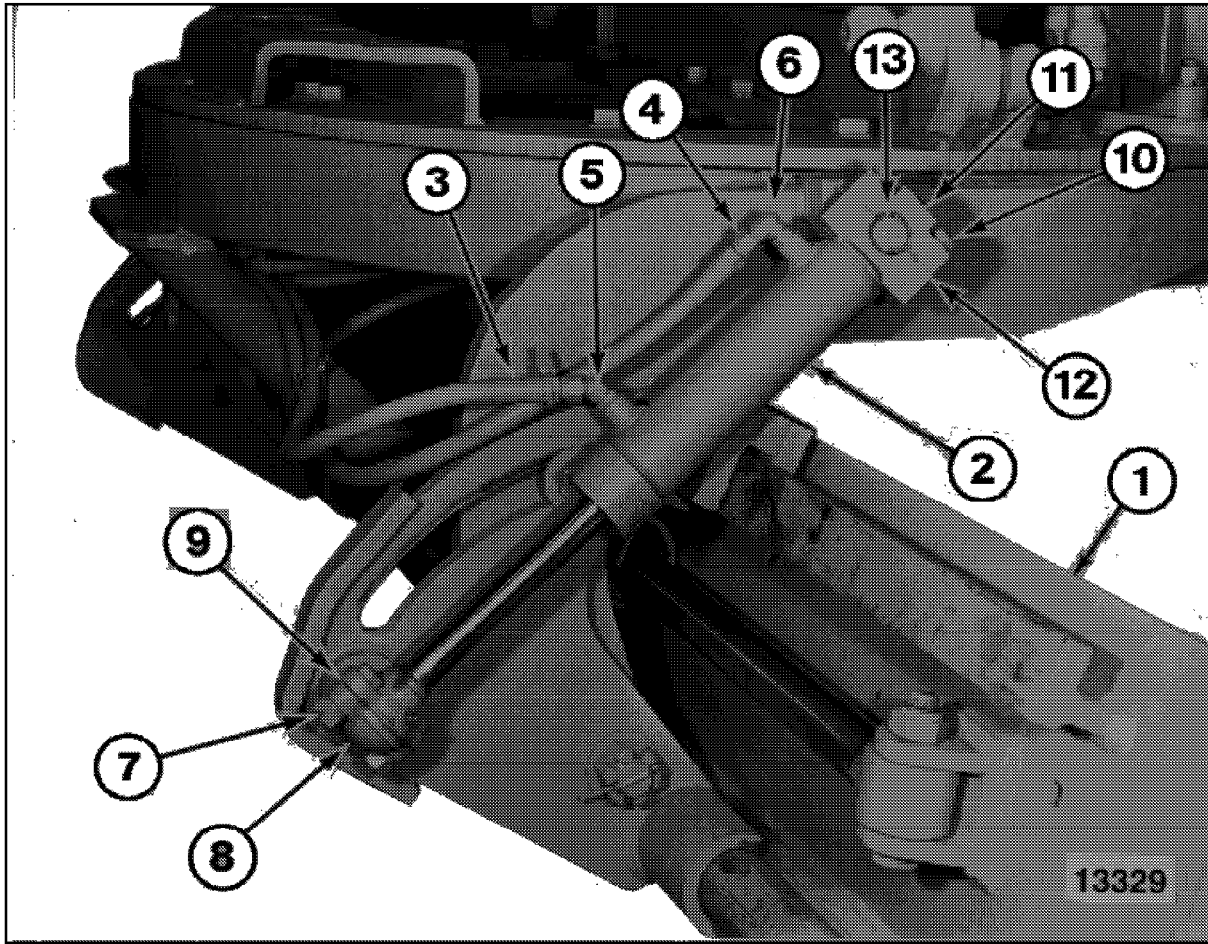

Figure 19
1. Coat ball studs (13, Figure 19) with grease.
2. Position base end of cylinder (2) against ball stud. Secure cylinder in place by installing shims (12), ball cap (11) and two lock washers and bolts (10).